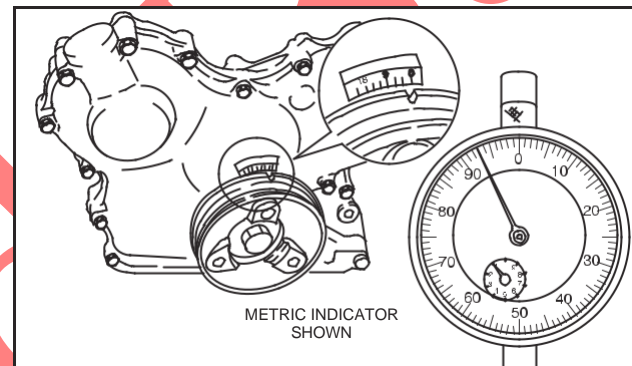

Fig. 10 – Verify Timing
4. To verify that timing is correct, rotate crankshaft counter-clockwise until dial indicator reads "0." Then rotate crankshaft clockwise until timing mark on pulley aligns with reference point on gear case cover (TDC). Indicator should be within specification, Fig. 10.